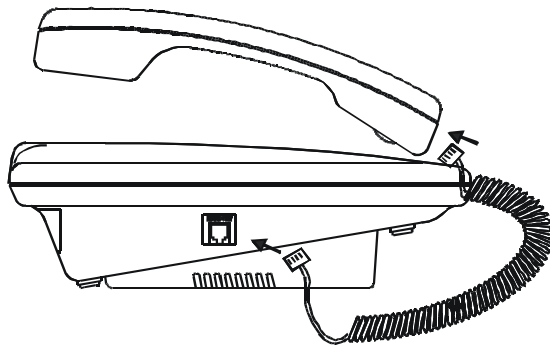

FIGURE 3
1. Plug one end to the modular handset cord into the modular receptacle on the left side of the unit. Plug the other end of the cord into the handset receptacle (figure 3).